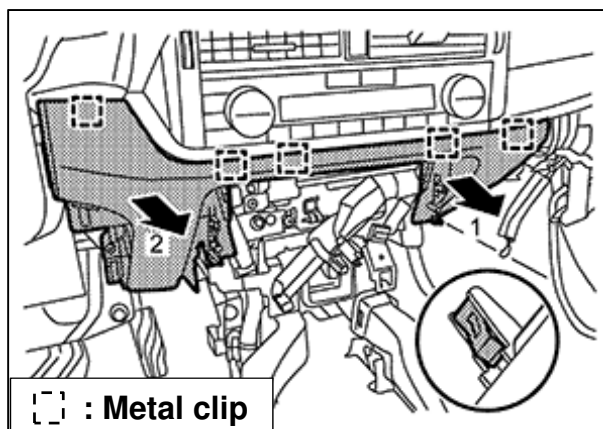
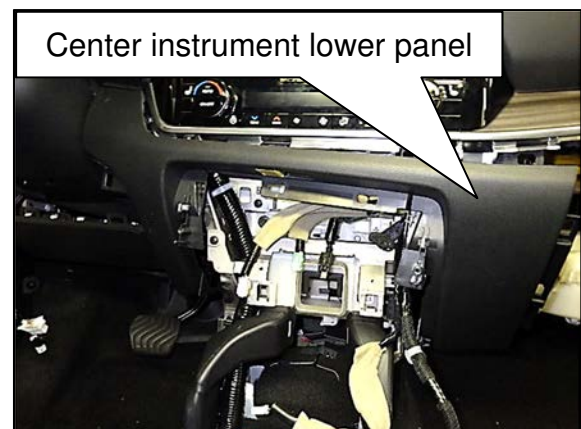

Figure 71
Figure 72
51. Disengage the five (5) center instrument lower panel metal clips, as indicated by the arrows in Figure 71, and then pull out the center instrument lower panel (Figure 72).